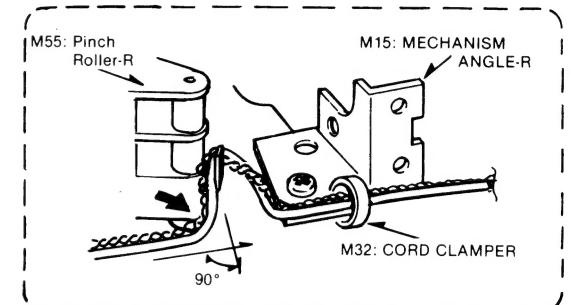

Fig. 2
Button Retainer Plate Fig. 2
3. Trace the record/playback head lead-wire as follows (Refer to Fig. 2.):
- At this time, hook the head wire to the clamer of the pinch roller R, and press the head wire in the direction of the arrow as shown in Fig. 2 so that it is bent approximately 90 degrees. Then secure the wire on the mechanism unit using a cord clamper.